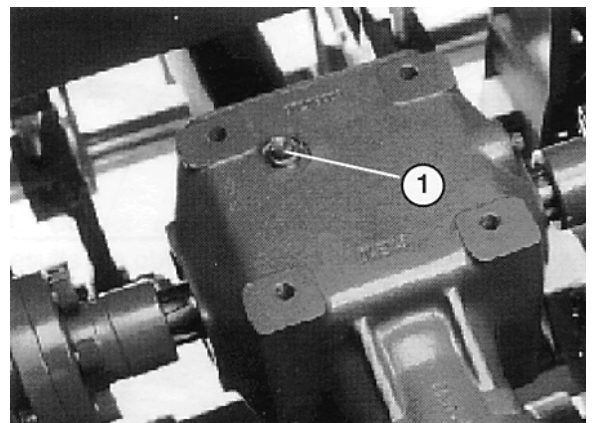

Figure 13
1. With the machine on a level surface, remove the oil fill/dipstick plug (Fig. 13).